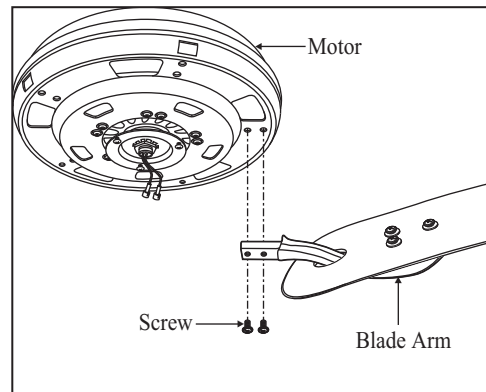

Figure 15
4. Fasten the blade assemblies to the motor housing by aligning the blade arm holes to the motor holes and secure with screws provided. Tighten the screws securely (Fig. 15)